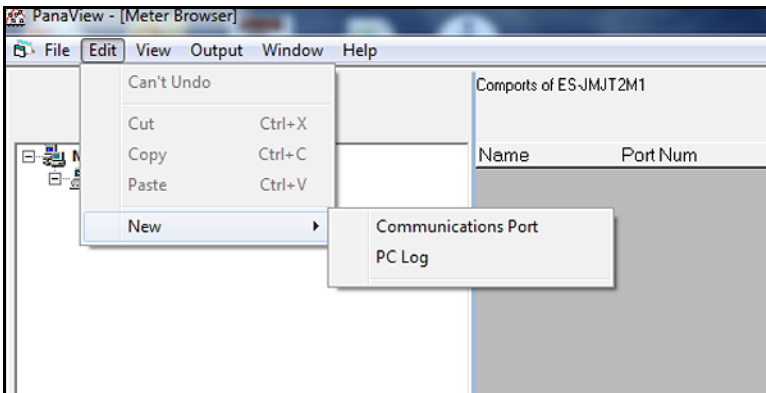
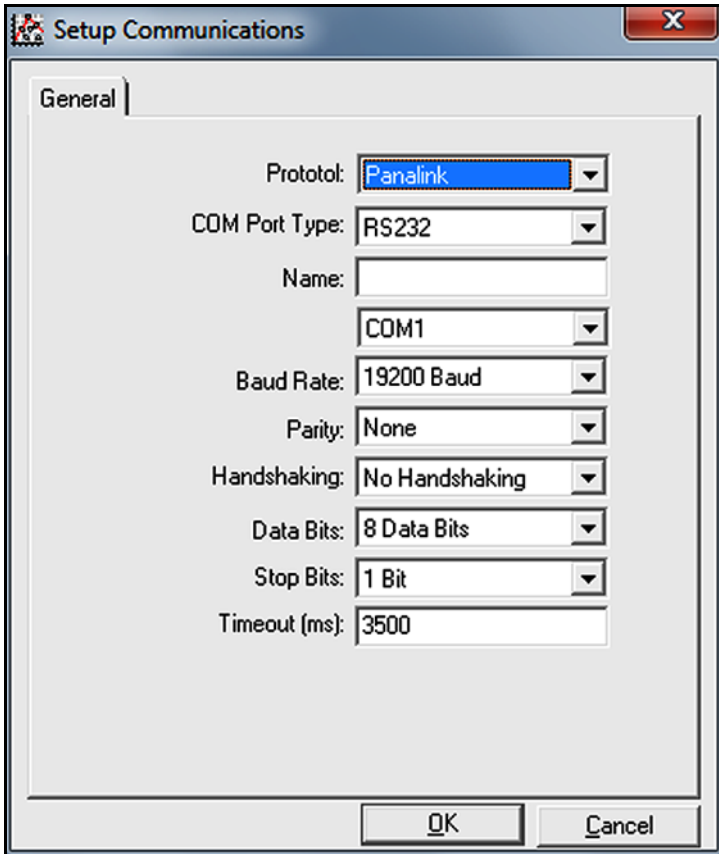

Figure 26: The Edit Menu
Figure 27: The Setup Communications Screen
3. Click on the “*New*” menu option to select it, and a submenu opens with two choices on it (see *Figure 26* below).
4. Click on the “*Communications Port*” option to select it (see *Figure 26* on page 38). The dialog box shown in *Figure 27* below opens, with “*Untitled*” as the default “*Name*.”
The dialog box in *Figure 27* above permits the user to name the communication port (the name “*Comport*” is used for this example) and to set up all of its parameters.
5. After all of the communications port parameters have been set, click the [OK] button (see *Figure 27 on page 39*).